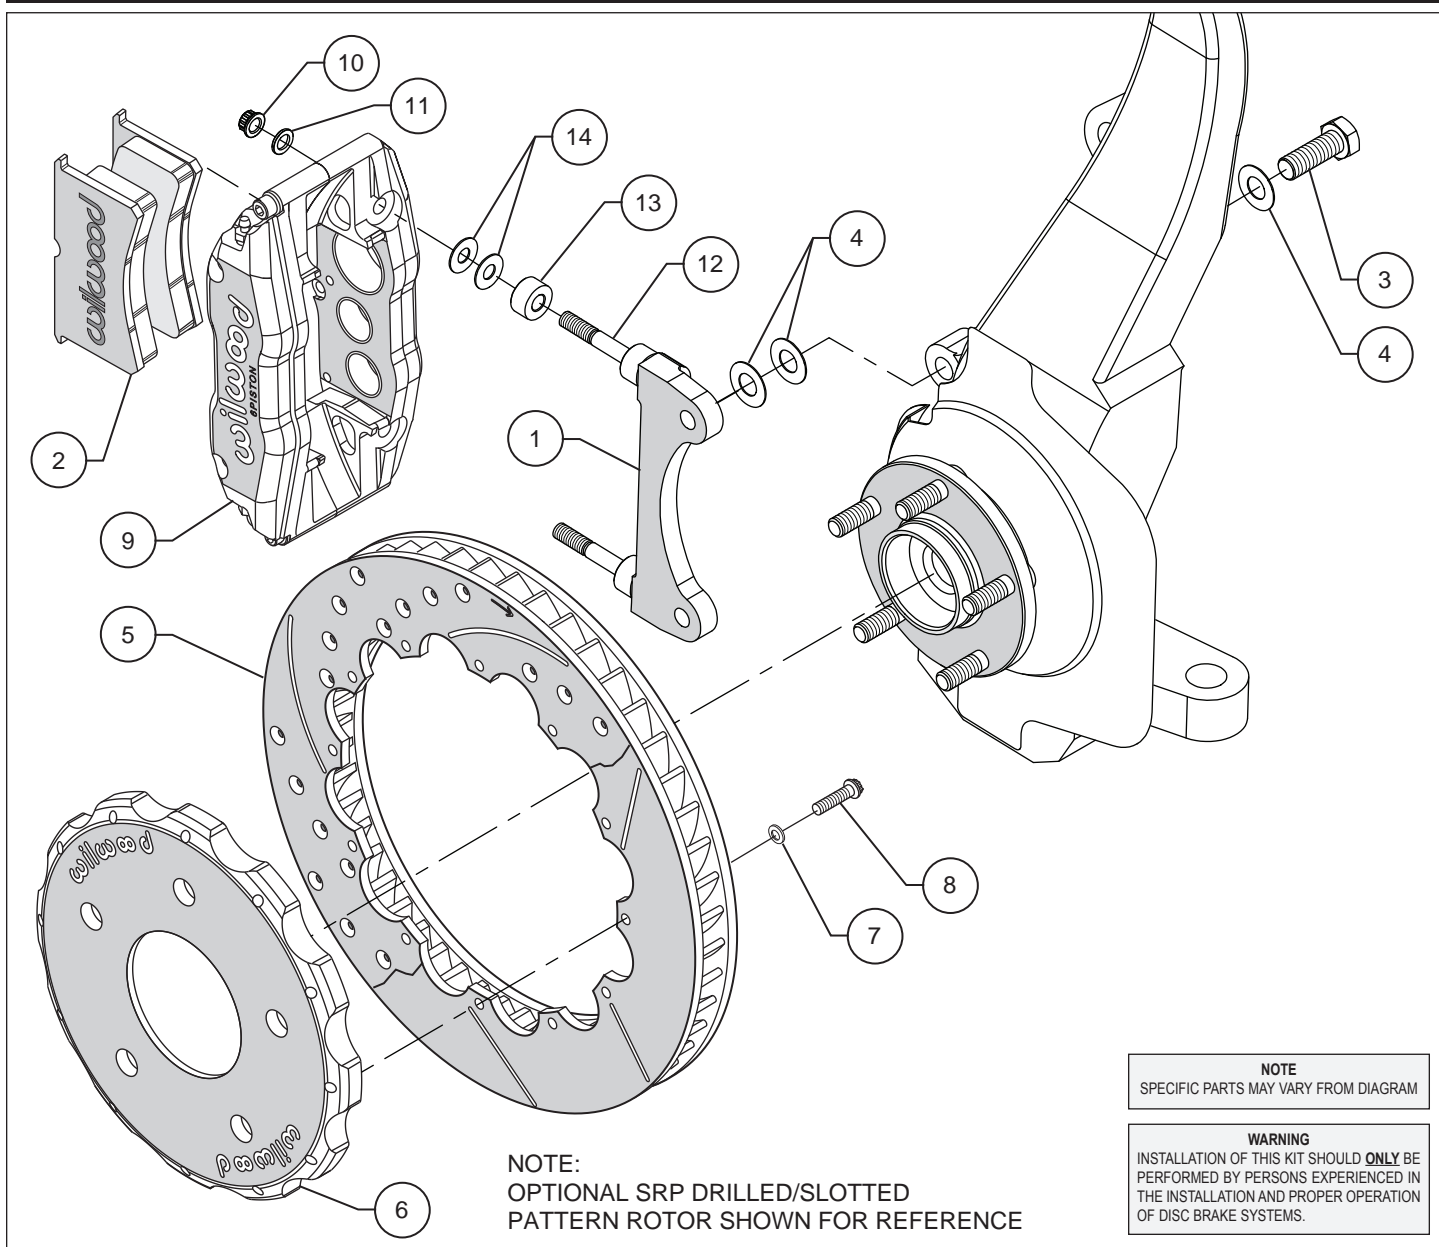
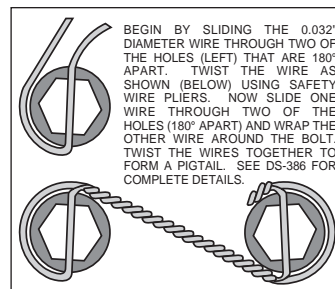

Figure 1. Typical Installation Configuration
Figure 4. Safety Wire Diagram
Assembly Instructions (numbers in parenthesis refer to the parts list and Figure 1 on the preceding pages):
•The caliper mount bracket (1) should initially be installed with clean, dry threads on the mounting bolts. Orient the bracket as shown in Figure 1 and Photo 1, and install using shim washers (4) and bolts (3). Initially place two additional shims (4) on each bolt between the bracket and upright, Figure 1. Temporarily tighten the mounting bolts. **NOTE:** The bracket must fit squarely against the mount bosses on the upright. Inspect for interference from casting irregularities, machining ridges, burrs, etc. Later, after the caliper alignment has been checked, the mount bolts will be secured using red *Loctite*[®] 271.
•Orient the rotor (5) and the hat (6) as shown in Figure 1 and Photo 2. Attach rotor to hat using bolts (8) and washers (7). Using an alternating sequence, apply red *Loctite*[®] 271 to the threads, and torque to 155 in-lbs. Safety wire bolts using standard 0.032 inch diameter stainless steel safety wire as shown in Figure 4. Please refer to Wilwood's data sheet DS-386 (available at www.wilwood.com/Pdf/DataSheets/ds386.pdf) for complete safety wire installation instructions.
•**NOTE:** This kit contains distinct right and left hand calipers that must be mounted in a specific direction, as described below. Lubricate the caliper mounting studs (12) with lightweight oil. Initially place two .035" thick shims (14) and one spacer (13) on each stud as shown in Figure 1 and Photo 3. With the bleed screws pointing up, mount the caliper (9) onto the bracket (1) using lock nuts (10) and washers (11), Figure 1 and Photo 4. Ensure that the caliper is mounted so that the largest pistons are at the rotor exit end of the caliper, in relation to the direction of rotor rotation. Temporarily tighten the lock nuts and view the rotor through the top opening of the caliper. The rotor should be centered in the caliper, Photo 5. If not, adjust by adding or subtracting shims (4) between the bracket and the upright. Always use the same amount of shims on each of the two mounting bolts. Once the caliper alignment is correct, remove the bracket mounting bolts one at a time, apply red *Loctite*[®] 271 to the threads, and torque to 75 ft-lb.